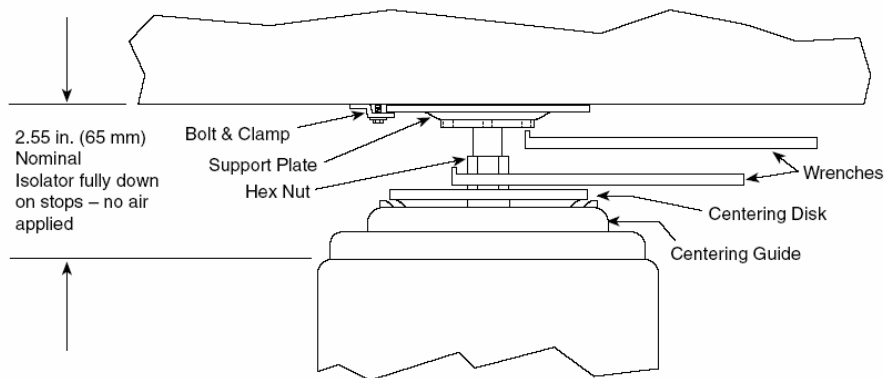

Figure 4 — Level Adjustment of Isolators
1. Refer to Figure 4. As shown, use one of the special wrenches to hold the hex nut stationary. Insert the prongs of the second wrench into the holes on the bottom of the support plate. Rotate the plate using the top wrench to adjust the height.
3. For each isolator, adjust the support plates as required to bring the table to a level condition. Be sure to check the level using both the length and width axes of the table. Verify that the centering disks are centered in and resting on their respective guides (Figure 4).
4. When the table is completely level, ensure by eye that every isolator support plate is snug against the table bottom and that each centering disk is centered in its guide (Figure 4).